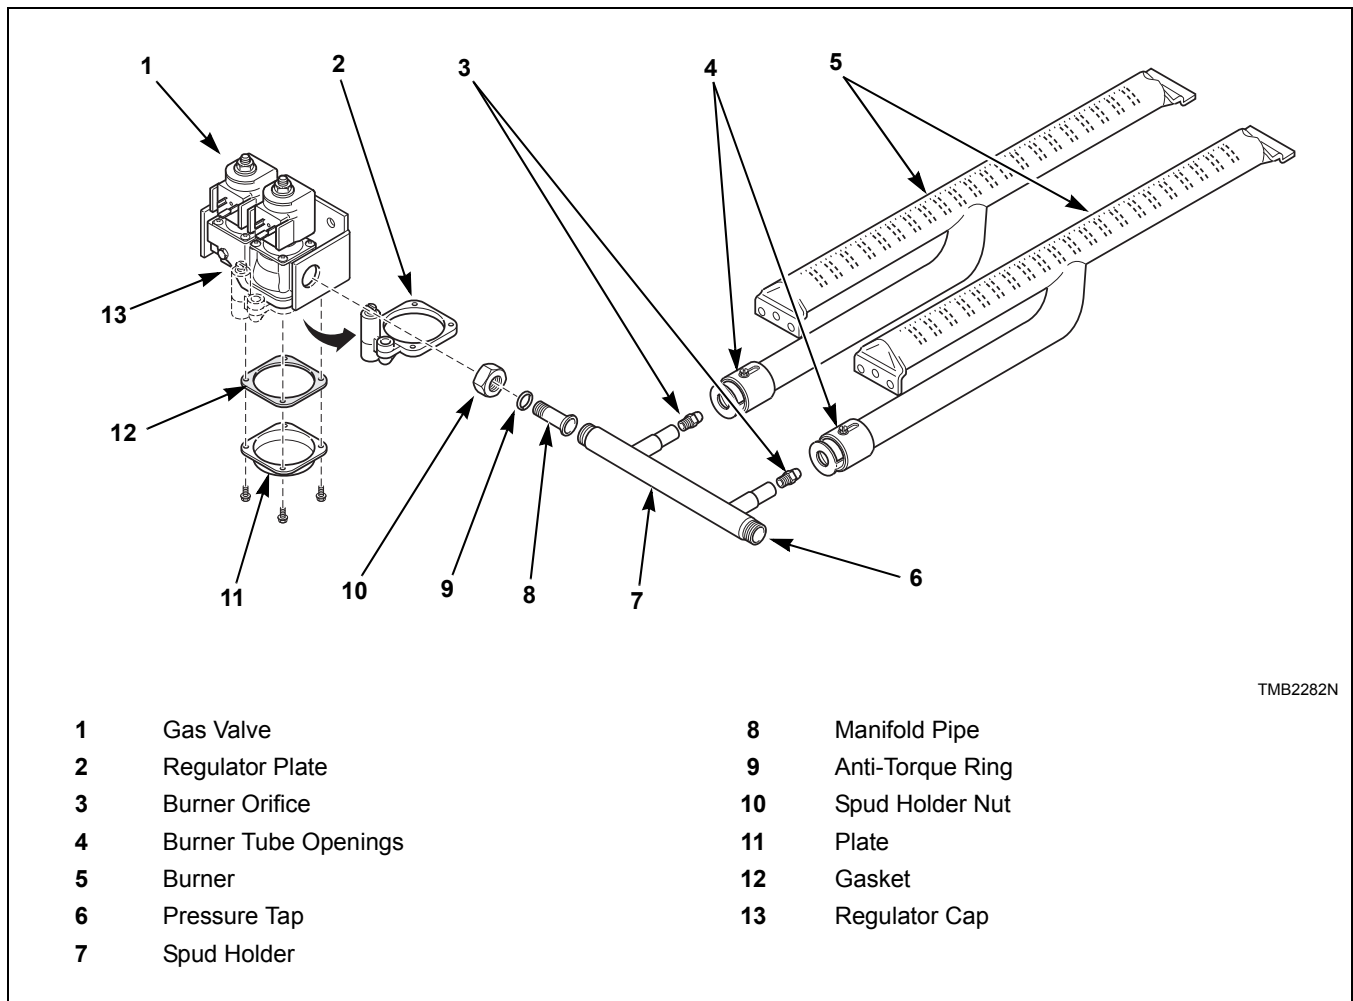

Figure 12
2. Remove spud holder. Unscrew spud holder nut near gas valve. Remove the burner orifice(s) from spud holder. Refer to *Figure 12*.
1. Check gas burner orifice (manifold) pressure as follows. Refer to *Figure 12*.
4. Start tumble dryer and note pressure once flame is burning. Remove regulator cap and adjust regulator screw until the burner orifice pressure per applicable table is achieved. Replace regulator cap. Refer to *Figure 12*.